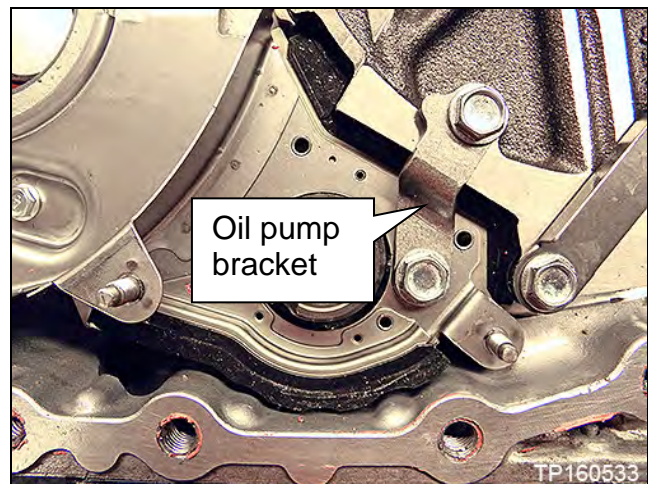

Figure 16C
- c. Oil pump bracket (Figure 16C).